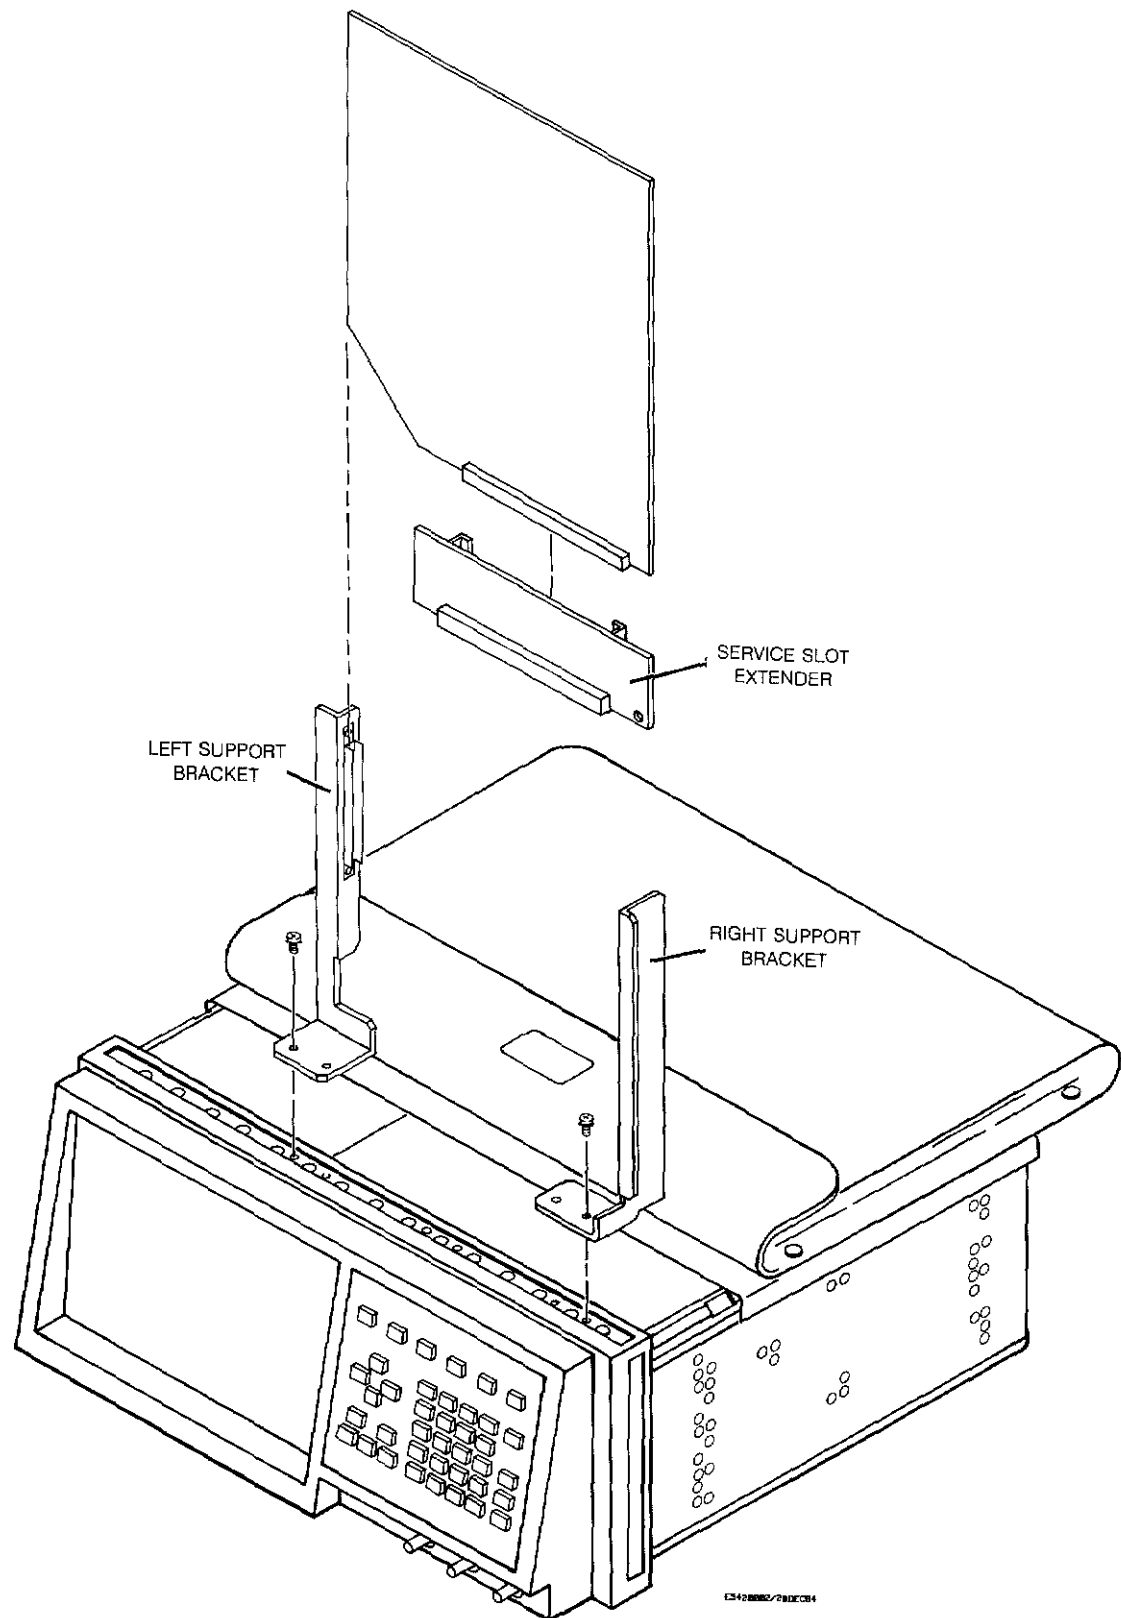

Figure 6-3. Service Slot Extender Assembly
3. Insert Service Slot Extender board into connector on motherboard as shown in figure 6-3.
5. Install left and right service slot support brackets into instrument as shown in figure 6-3.